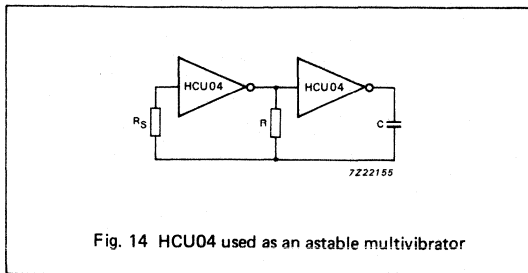

Fig. 14 HCU04 used as an astable multivibrator
- Astable multivibrator (see Fig. 14)
**Note to Fig. 14**